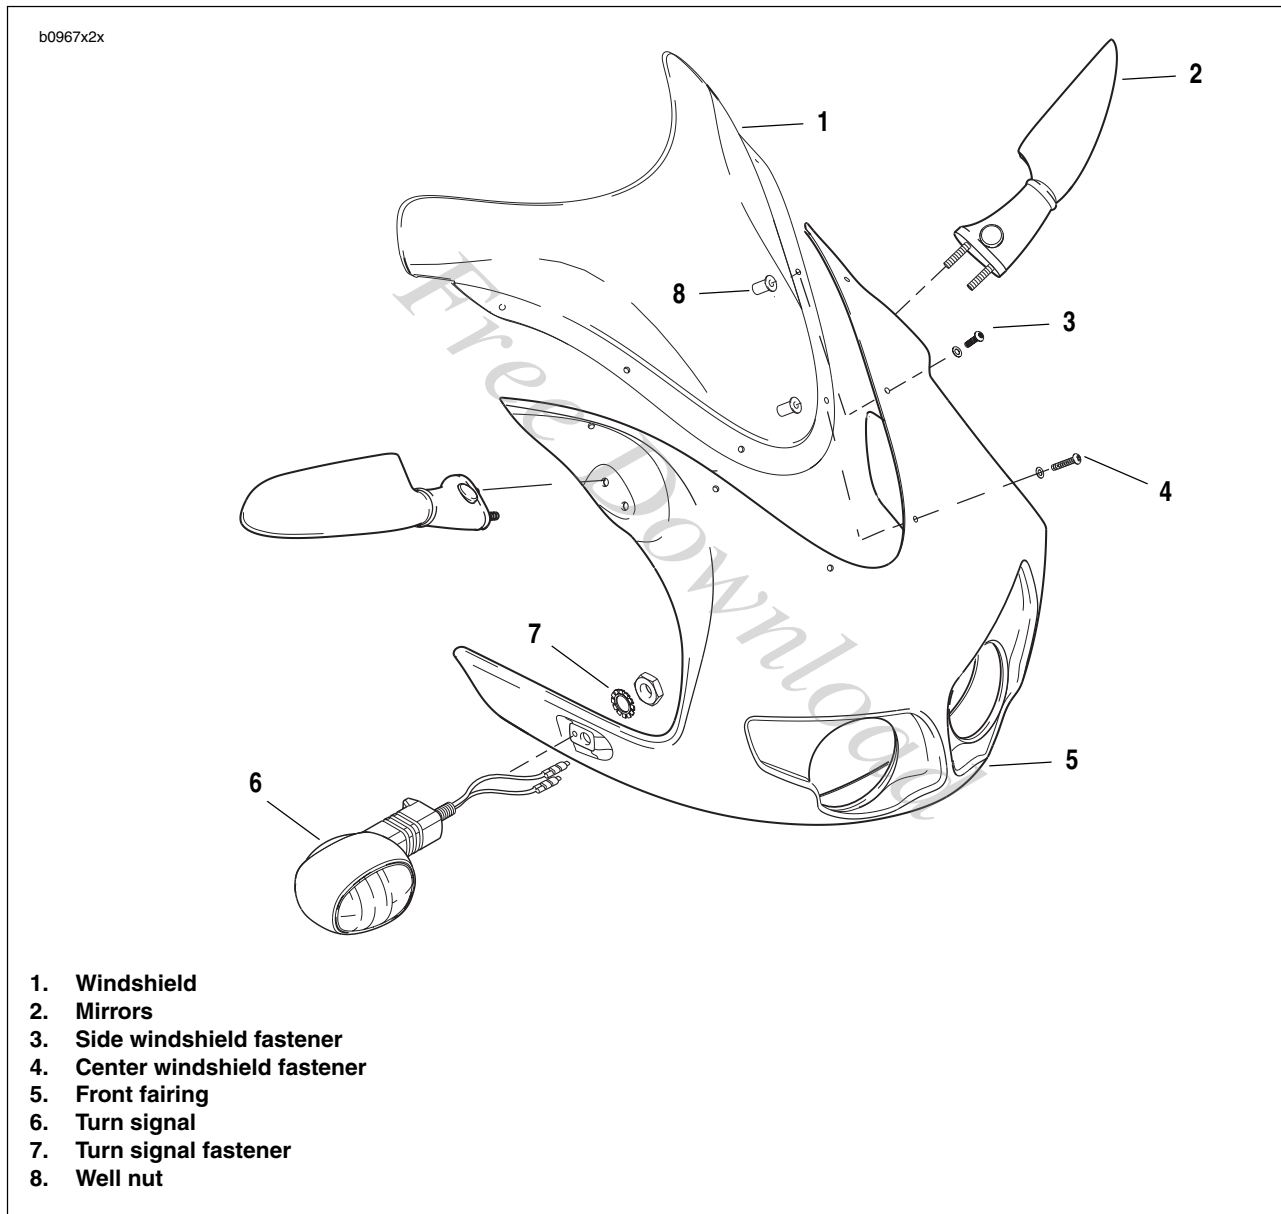

Figure 2-124. Front Fairing and Windscreen
1. See Figure 2-124. Remove two center (4) and four side windscreen fasteners (3) to remove windshield (1).
2. Remove mirrors (2).
3. Remove turn signals (6, 7). See 7.14 TURN SIGNALS and remove front fairing (5).
1. See Figure 2-124. Position fairing (5) onto fairing support bracket and install turn signals (6, 7). See 7.14 TURN SIGNALS.
2. Install mirrors (2) with fasteners and tighten to 72-96 **in-lbs** (8-11 Nm).
3. Install two center (4) and four side windscreen fasteners (3).